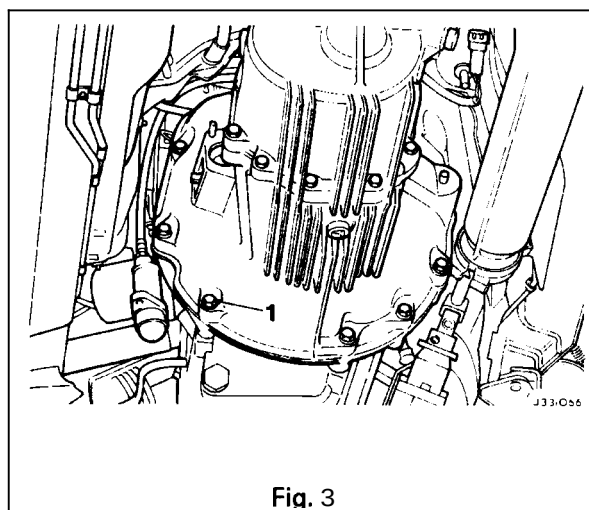

Fig. 3
- Remove transmission-to-engine adaptor plate securing bolts (1 Fig. 3).